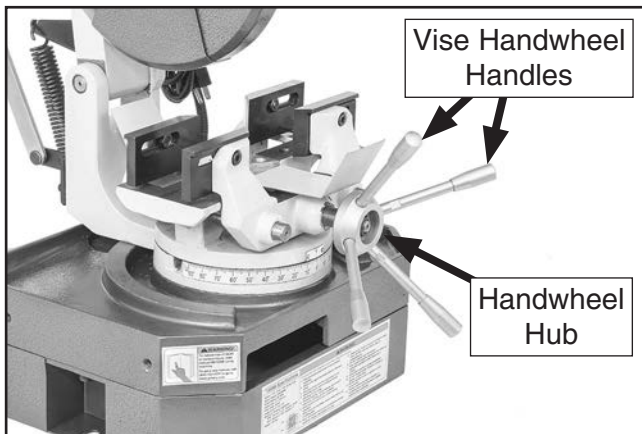

Figure 13. Vise handwheel handles threaded into handwheel hub.
1. Thread (4) vise handwheel handles into handwheel hub (see **Figure 13**).